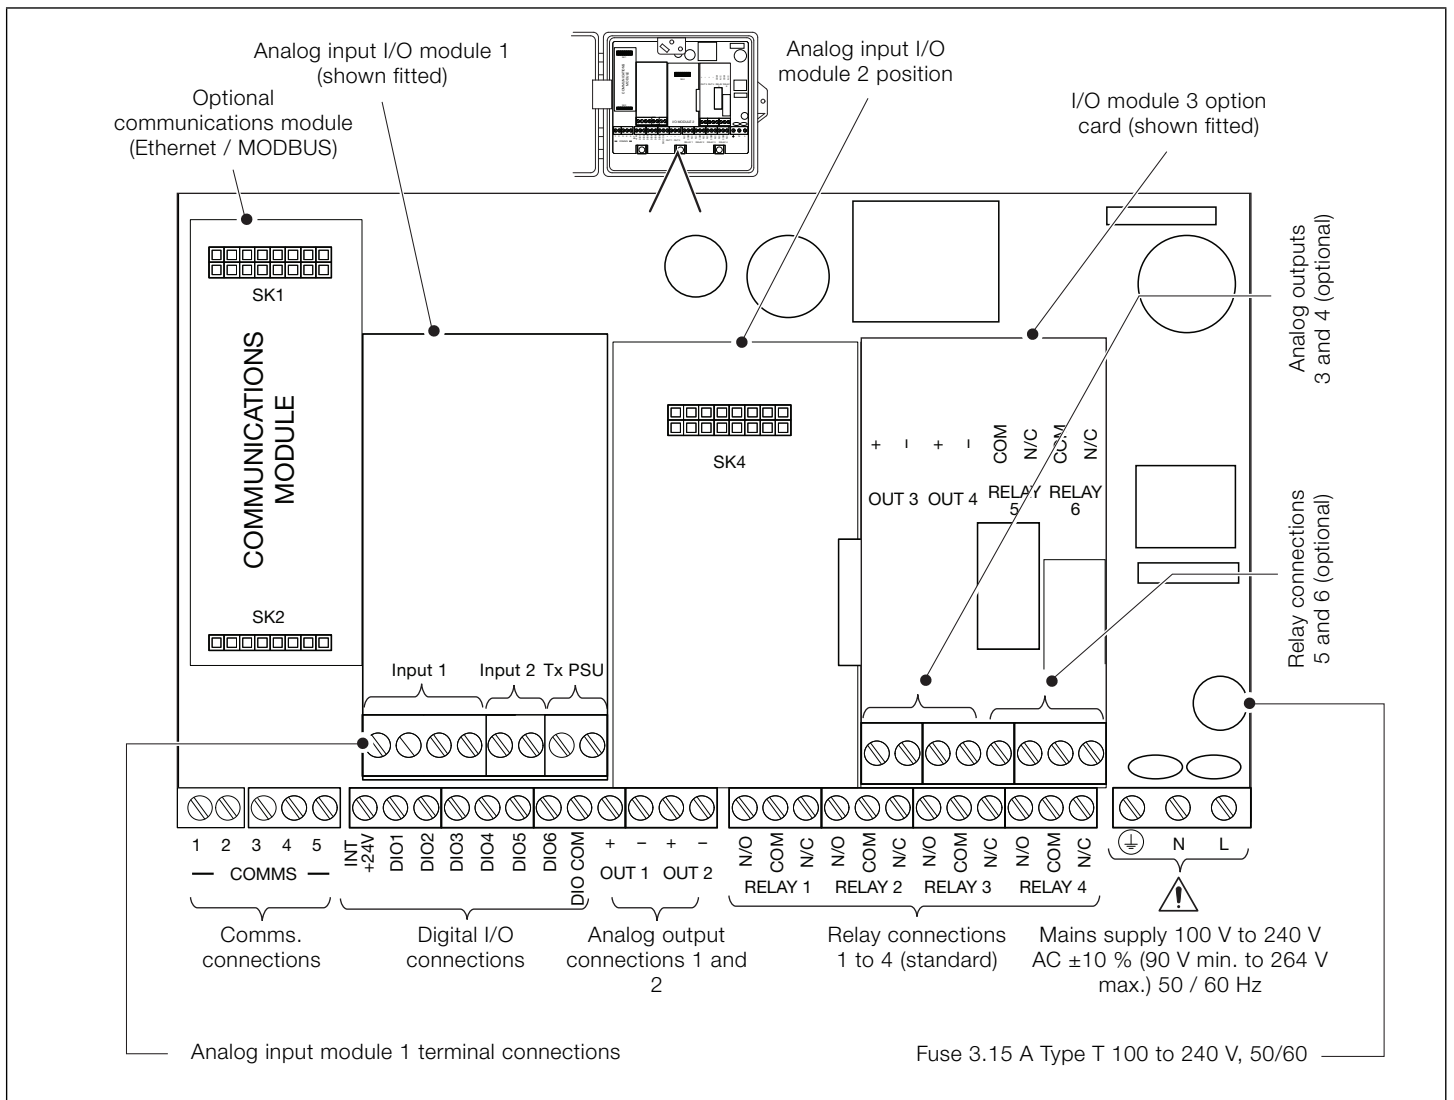

Fig. 8 CMF160 / 310 electrical connections
- Ensure the correct fuse is fitted – see Fig. 8 for fuse details.
1. Using a pozi-drive screwdriver, turn the (captive) electronics section door retaining screw (A) 1/4 turn counter-clockwise and open the door.
2. Turn the cover plate retaining screw (B) anti-clockwise until the cover plate (C) can be removed.
3. Make connections to connection board terminals – see Fig. 8, page 8.
4. Refit cover plate (C) and secure it by turning retaining screw (B) clockwise until finger-tight. Close the door to the electronics section and turn door retaining screw (A) 1/4 turn clockwise to secure.